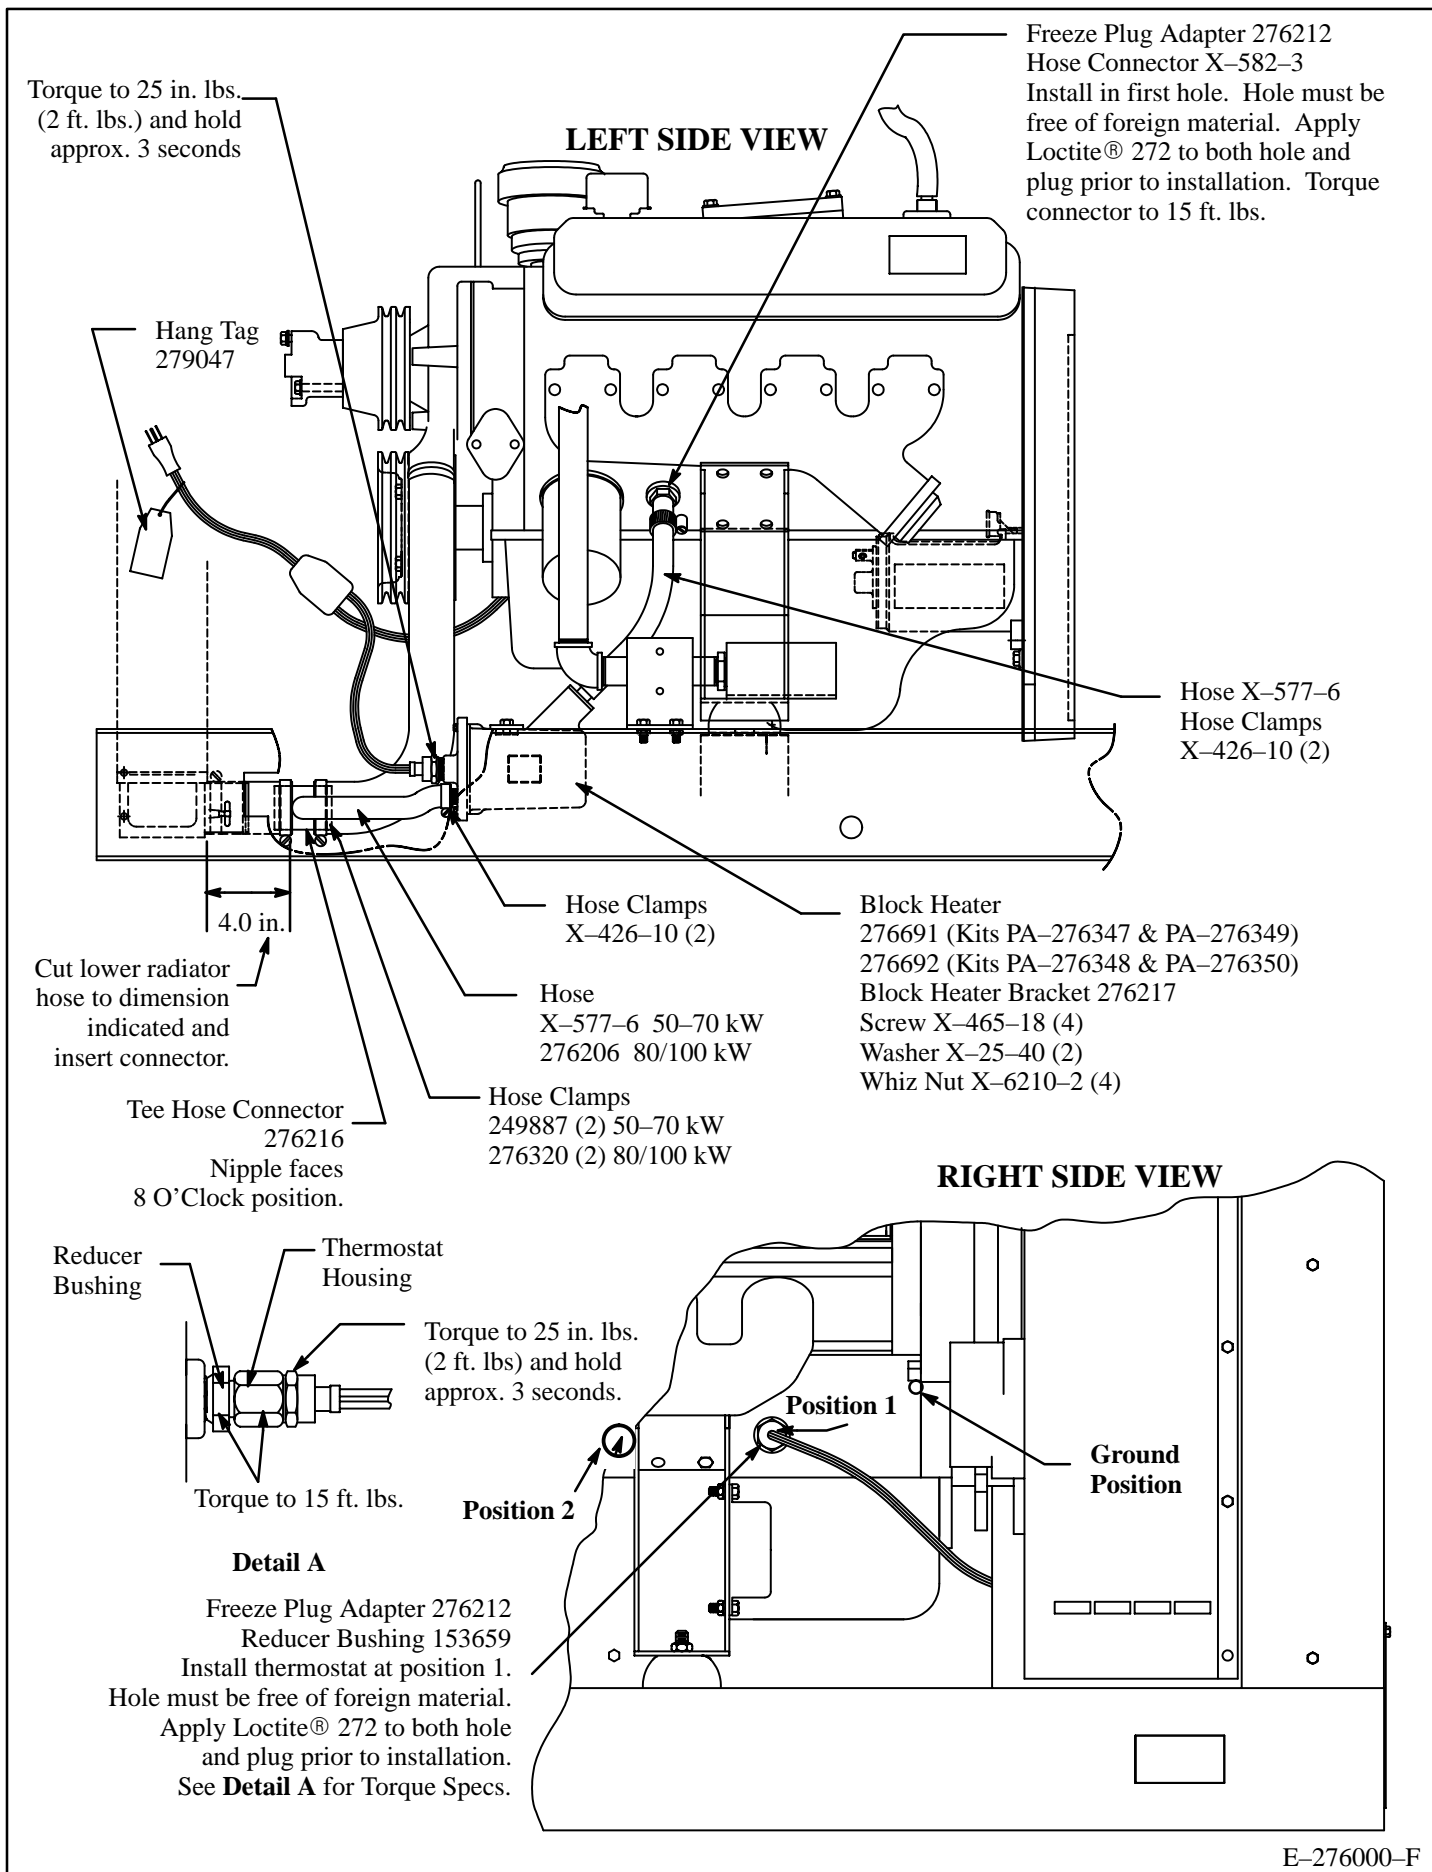

Figure 1. Block Heater Installation
3. Remove freeze plug from engine. See Figure 1 (Left Side View – when viewed from generator end) for location. To remove freeze plug, use a freeze plug puller, or puncture center with punch and pry out. Clean hole and remove burrs.
10. If installing block heater kit on a unit with the **Low Water Temperature (L.W.T.) Switch** feature located at position 1 (See Figure 1, Right Side View): Remove the L.W.T. switch and reducer bushing at position 1, leave the freeze plug adapter at position 1. Install freeze plug adapter 276212 and removed reducer bushing at position 2. Install reducer bushing 153659 (supplied in kit) at position 1. Install the thermostat into the reducer bushing at position 1. Relocate L.W.T. switch at position 2. Pull lead 35A back through harness and connect to L.W.T. switch. Remove lead N from harness disconnecting at ground position. Add new lead SWON-1622-2218 to L.W.T. switch and connect the other end to the ground position.
11. Remove freeze plug from engine. See Position 1, (Figure 1, Right Side View) for location. To remove freeze plug, use a freeze plug puller, or puncture center with punch and pry out. Clean hole and remove burrs.
12. With components clean and dry, apply Loctite® threadlocker 272 (red) or equivalent to freeze plug adapter 276212 and hole. Install freeze plug adapter using hardwood dowel and hammer at position 1 (see Figure 1, Back View). Drive freeze plug adapter into engine block so that it is flush with outside surface of block. Do NOT drive freeze plug adapter beyond that point or it may be forced into the water jacket. Install reducer bushing 153659, and thermostat. Torque reducer bushing and thermostat housing to 15 ft. lbs.
*Only required if installing kit on a unit with a Low Water Temperature Switch located at position 1, Fig. 1.